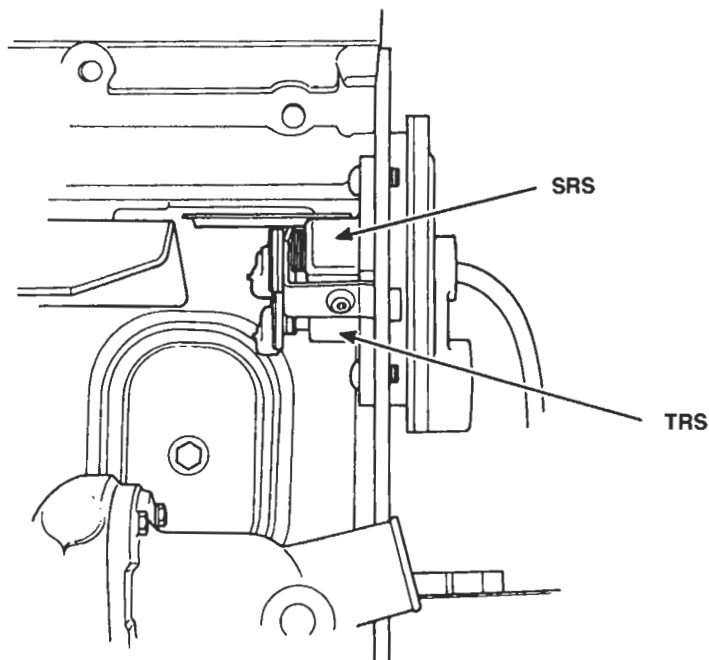

Figure 8. Installing SRS/TRS
5. Push gently on the end of the TRS so that the timing tool is in direct contact with the TRS and the raised metal teeth of the Pulse Wheel (Figure 8.)